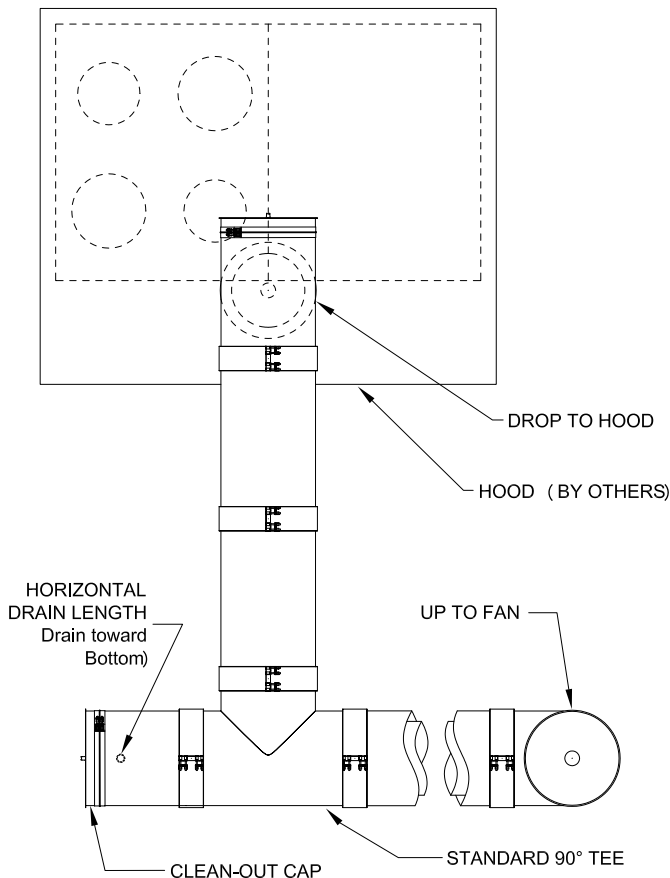

Figure 83 - Horizontal Drain Length typical location (Top View)
3. The duct drain is intended for use at the end of a horizontal run where access and drainage is needed (See Figure 83).